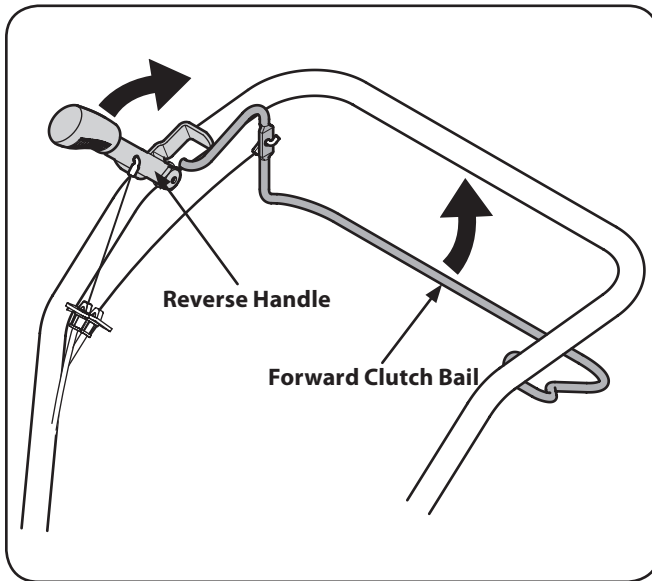

Figure 5-2
2. When tilling, relax and let the wheels pull the machine while the tines dig. Walk behind and a little to one side of the tiller. Use one hand, yet keep a light — but secure — grip on the handlebar (while keeping your arm loose). See Figure 5-2. Let the tiller move at its own pace and do not push down on the handlebars to try and force the tines to dig deeper — this takes weight off the wheels and reduces traction.